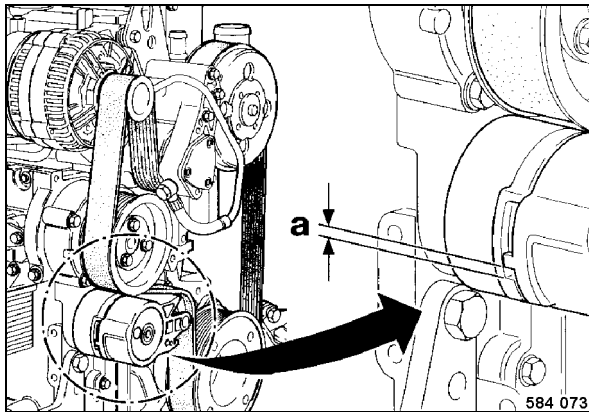

Fig. 155
- Check the distance between the tongue of the moveable tensioner arm and the fixed tensioner housing (Fig. 155).